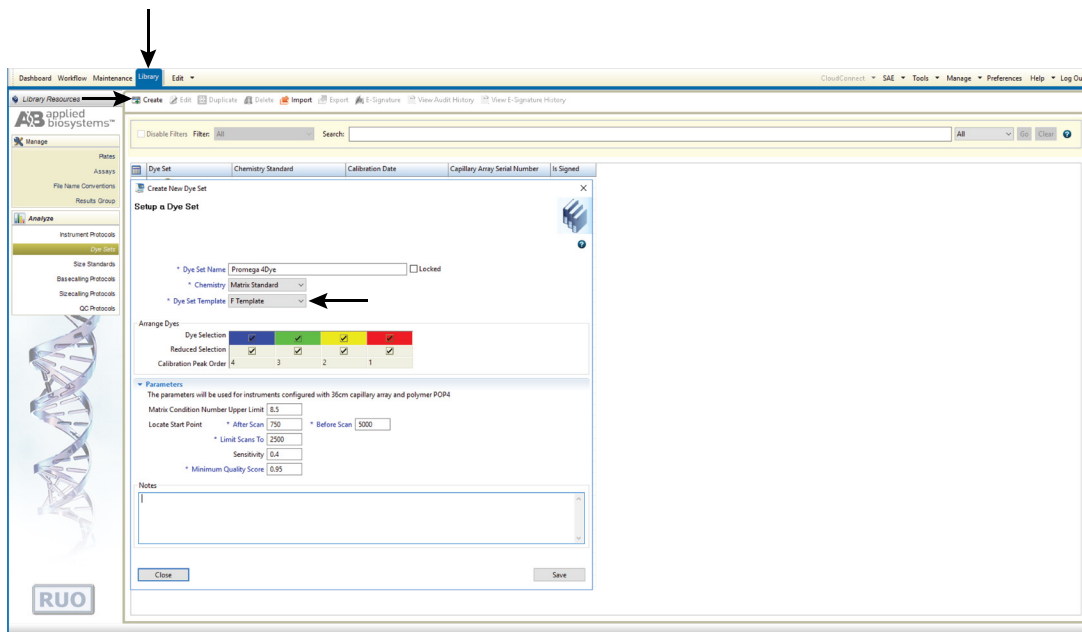

Figure 2. The 'Create New Dye Set' window.
- b. The 'Create New Dye' Set window will appear (Figure 2). Name the Dye Set (e.g., Promega F), select **Matrix Standard** for the Chemistry and select **F Template** for the Dye Set Template. Select **Save**.